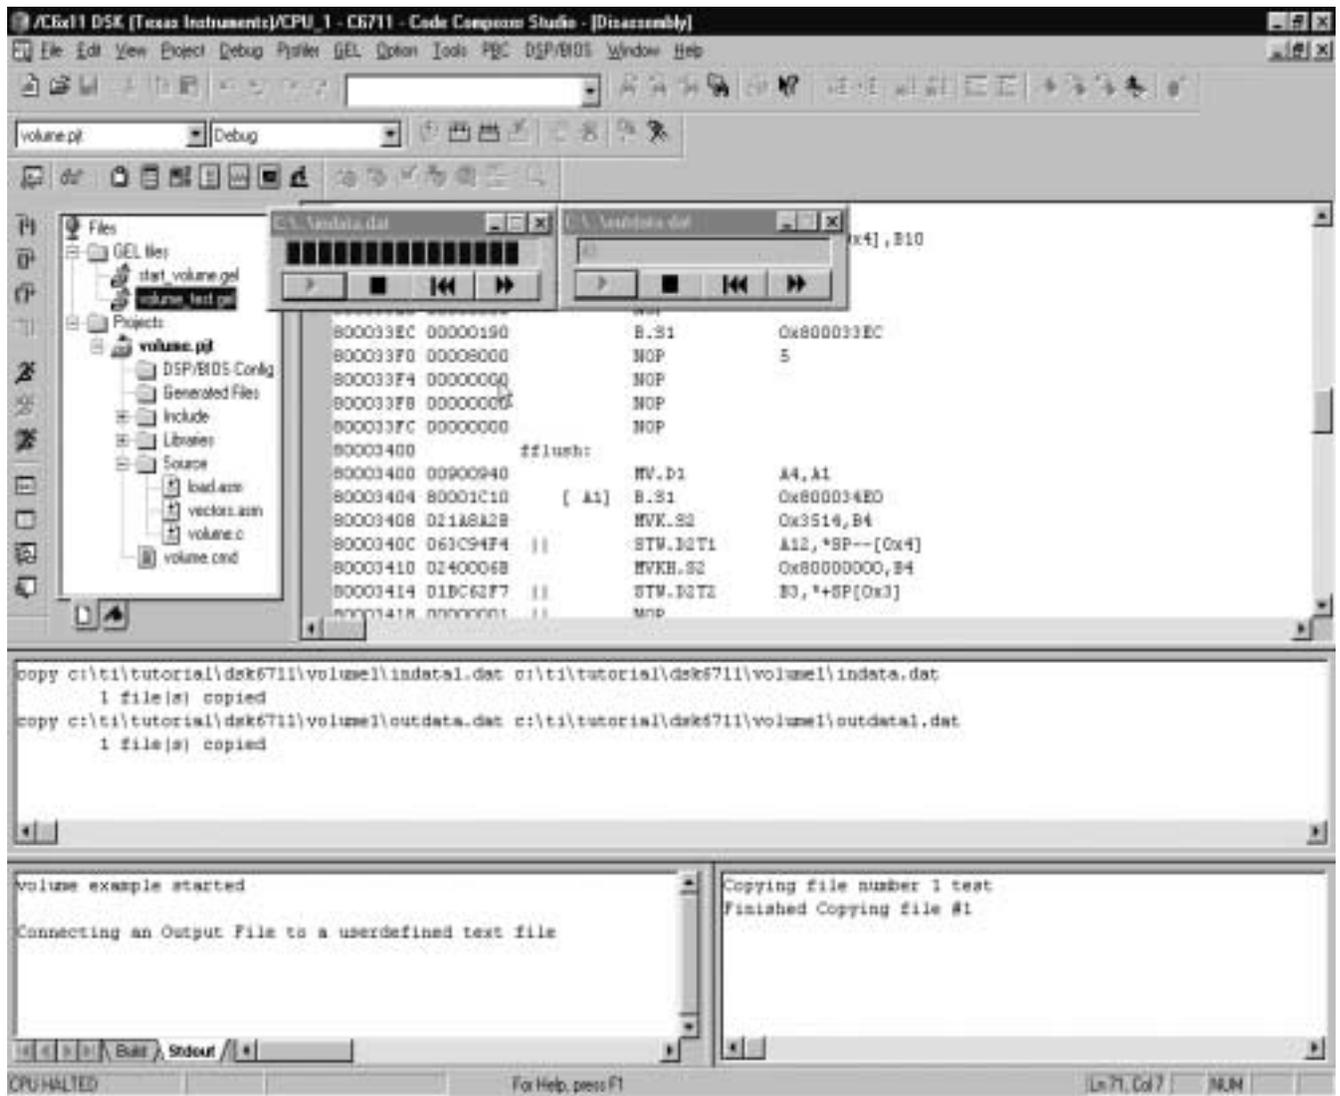

Figure 4. Output Screen of Single Vector Case
9. Go to Debug ⇒ Run to run the application and watch the output screens to see the execution status. Your screen should look similar to Figure 4.